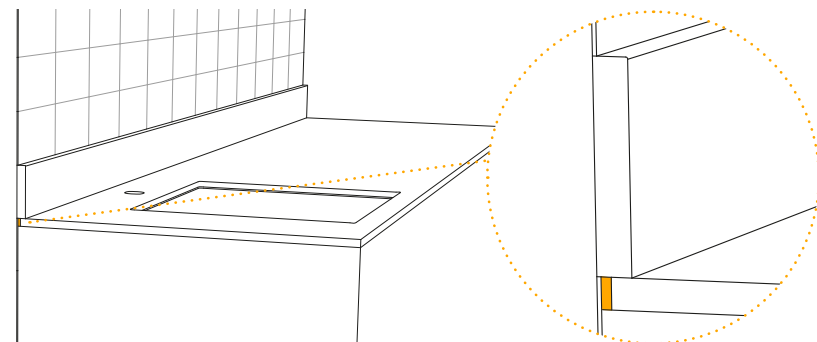

fig. 5
- Expansion joints of at least 3 mm between the countertop and the back-splash, if present, are recommended, in order to counteract any uneven areas on the walls or possible structural movements of the building, thus preventing excessive strain, which could in turn lead to the slab breaking (fig. 5). The strip at the back of the countertop must always be positioned over the countertop and sealed with silicone.